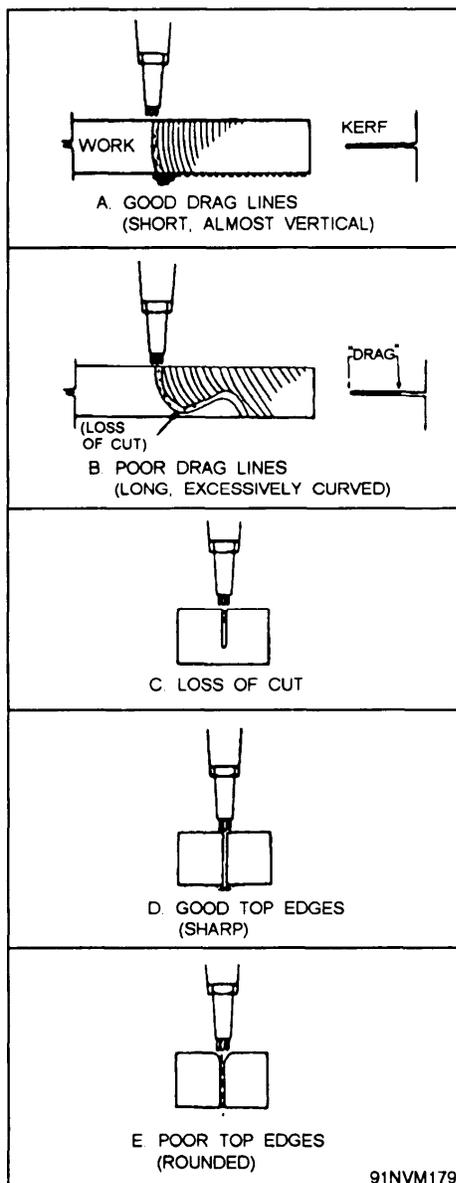

Figure 8-25.—Effects of correct and incorrect cutting procedures.
**DRAG LINES.**—Drag lines are the line markings that show on the cut surfaces. Good drag lines are almost straight up and down, as shown in view A of figure 8-25. Poor drag lines are long and irregular or excessively curved, as shown in view B of figure 8-25; drag lines of this type indicate poor cutting procedure which may also result in loss of the cut (views B and C of fig. 8-25).
**SHARPNESS OF TOP EDGES.**—The top edges resulting from an oxyacetylene cut should be sharp and square (view D, fig. 8-25). Rounded top edges, such as those shown in view E of figure 8-25, are not considered satisfactory. Melting down of the top edges may result from incorrect preheating procedures or from moving the torch too slowly.